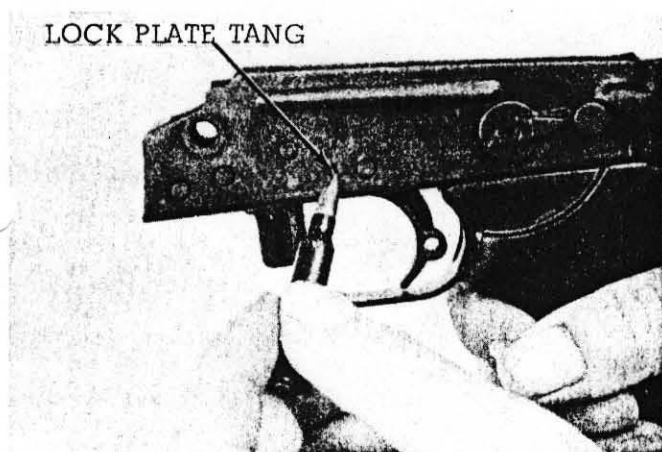

FIGURE 25. DISENGAGING LOCK PLATE FROM HOUSING
(1) Hold the trigger housing group in a vertical position. Insert the point of a cartridge into the hole that the lock plate tang is engaged in (figure 25), and push the lock plate forward. Put the point of the cartridge against the rear of the lock plate and push it as far forward as possible (figure 26). The lock plate must remain forward during disassembly of the trigger housing group so that the trigger pins can be removed.
(5) Align the trigger pins, and push the extended edge of the lock plate to the rear. The front edge of the lock plate should be flush with the forward edge of the trigger housing, and the lock plate tang should be seated in the lock plate tang hole (figure 25).